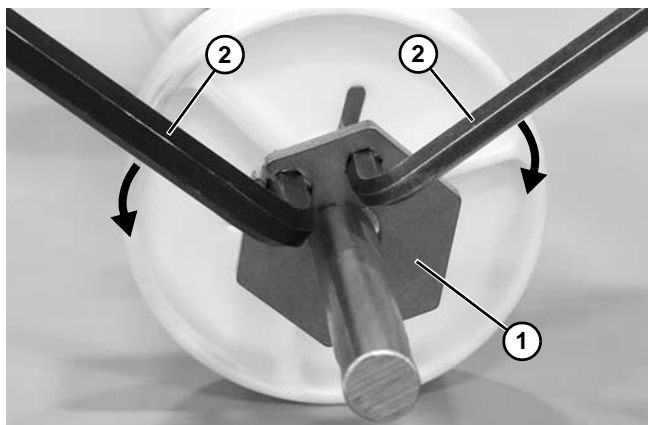

Figure 117
- c. To lock the retainer plate (**Figure 117, item 1**) in place, move the wrenches (**Figure 117, item 2**) away from each other.